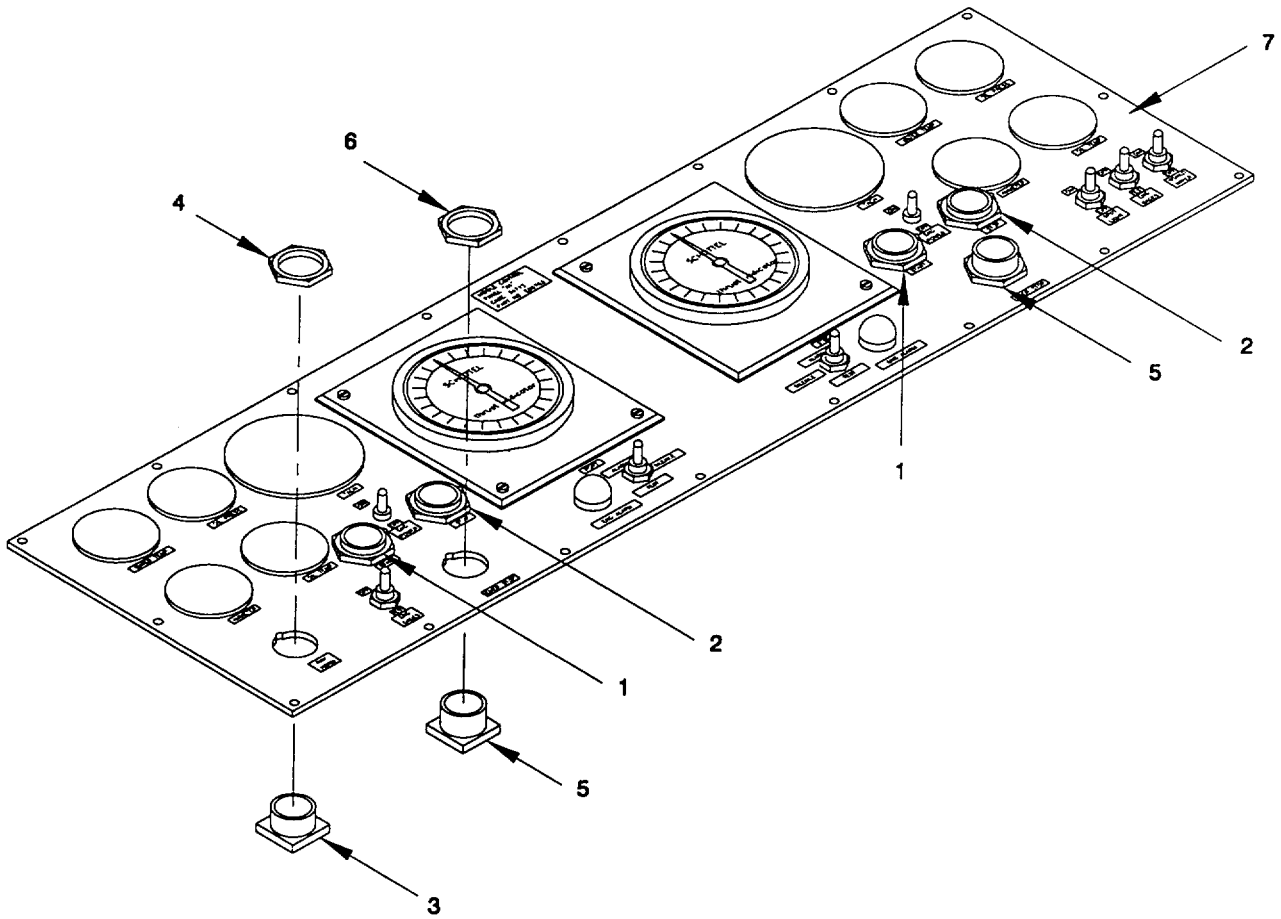

Figure 2-117. Pushbutton, Middle Control Panel "A1", Remove/Install.
a. Remove. (figure 2-117)
- (1) For removal of the two diesel engine start pushbuttons S2 and S7 (1), two diesel engine stop pushbuttons S3 and S9 (2), and the navigation horn pushbutton S10 (3), tag and disconnect the electrical wiring from the pushbuttons (1, 2 and 3). Refer to Appendix G.
- (2) Remove the hex nut (4) (supplied with each pushbutton) from the top of the panel. (7)
- (3) For removal of the two emergency stop pushbuttons S4 and S8 (5), tag and disconnect the electrical wiring from the pushbutton. Refer to Appendix G.
- (4) Remove the hex nut (6) (supplied with each pushbutton) from the top of the panel (7).
b. Install. (figure 2-117)
- (1) To replace the two emergency stop pushbuttons S4 and S8 (5), position the pushbuttons (5) from the underside of the panel (7) and secure with hex nut (4) (supplied with pushbutton) from the top of the panel (7).
- (2) To replace the two diesel engine start pushbuttons S2 and S7 (1), two diesel engine stop pushbuttons S3 and S9 (2), and the navigation horn pushbutton S10 (3), position each from the underside of the panel (7) and secure with hex nut (4) (supplied with each button) from the top of the panel (7).
- (3) Reconnect pushbutton electrical wiring as previously tagged. Refer to Appendix G. Use tie wraps and mounting bases to secure any loose wiring.